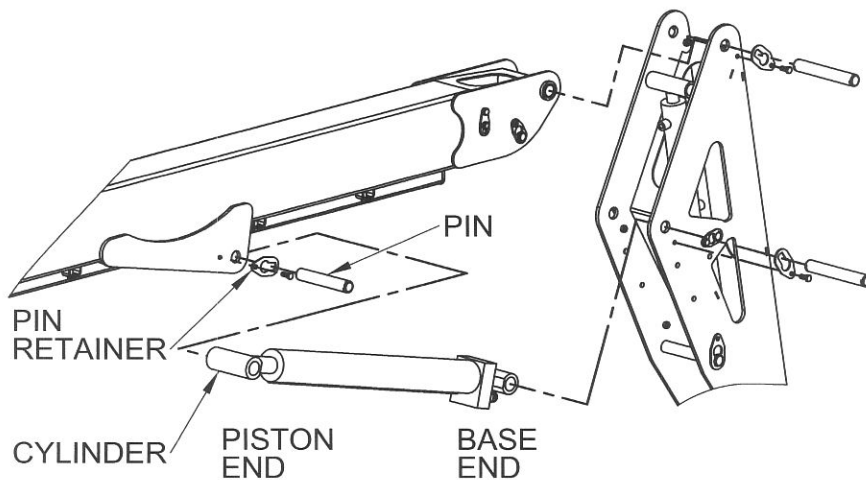

Figure 5-5. Lift Cylinder Replacement
- Locate the piston rod end of the cylinder to be removed. Unbolt and remove the pin retainer from each side of the pivot pin. Refer to Figure 5-5.